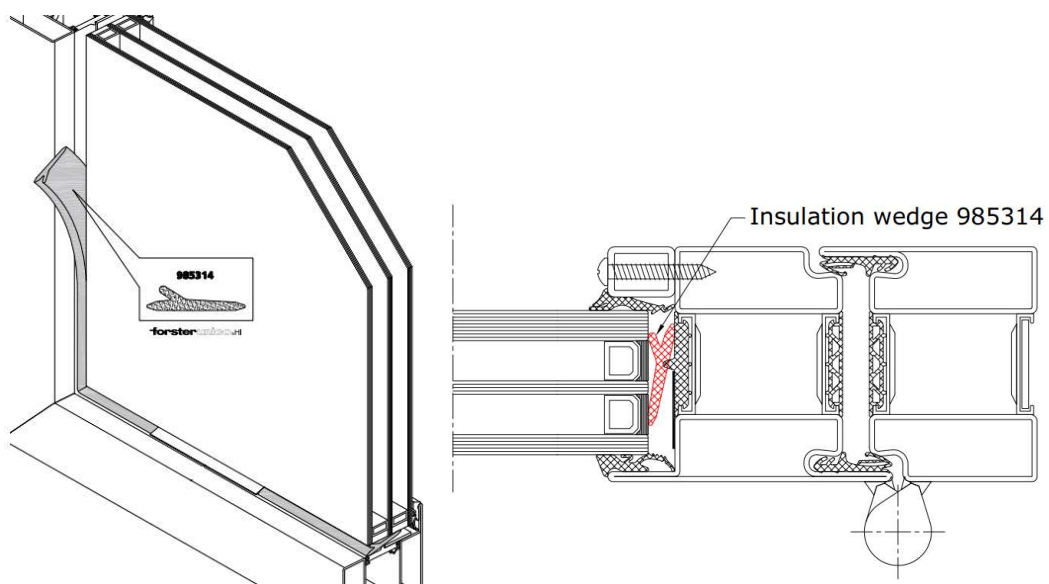

Figure 10 Unico Hi Insulation wedge 985314
6. Install the Unico Hi insulation wedge 985314 and make cutouts for glass bridges (Figure 10).